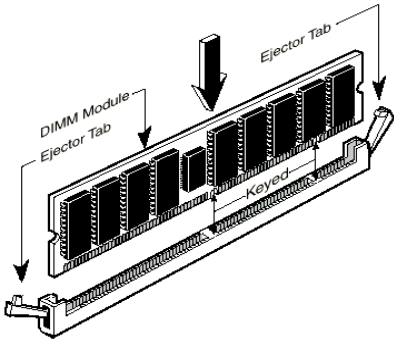

Figure 2-6. Memory module installation
**Step 5.** Insert the DIMM module into the expansion socket as shown in the illustration. Note how the module is keyed to the socket. You can refer to figure 2-6 for the details. ***This insures the DIMM module will be plugged into the socket in one way only.*** Firmly press the DIMM module into the DIMM socket, making certain the module is completely seated in the DIMM socket.